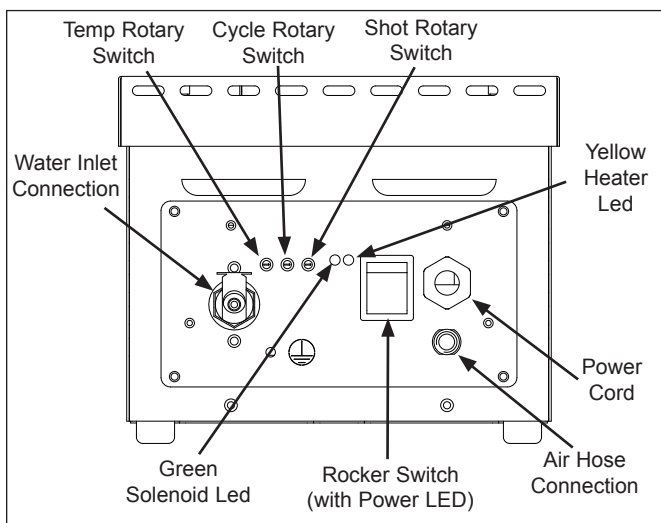

Figure 2. STS-200 Steamer/Scale (Back View) Without Storage Shelf Shown for Better View.
3. Connect the outlet hose/fitting from the Dual Water Regulator Kit to the Water Inlet Connection at the rear of the unit (Figure 2).
4. Connect the Air Bulb Switch tubing to the Air Hose Connection on the back of the unit (Figure 2). Push the tubing onto the connector. See the instructions for optional mountings.
6. Note that the Rotary Switches on the back of the unit (Figure 2) are pre-set to